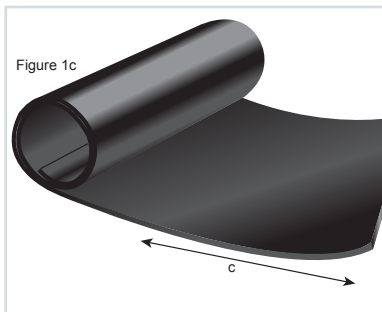

Figure 1c
1. Start by measuring the inner circumference **c** of the spiral duct using a 2" wide strip of the same thickness AP Spiralflex duct liner being used. Place the strip around the inside of the duct. Be certain that the strip is making good contact with the duct and no gaps are present between the insulation and the wall of the duct. Transfer the **c** measurement along the **long edge** of the AP Spiralflex roll for each piece (Figure 1c). This allows the cut liner material to follow the natural curvature of the roll and ensuring a tight fit against the inner wall.